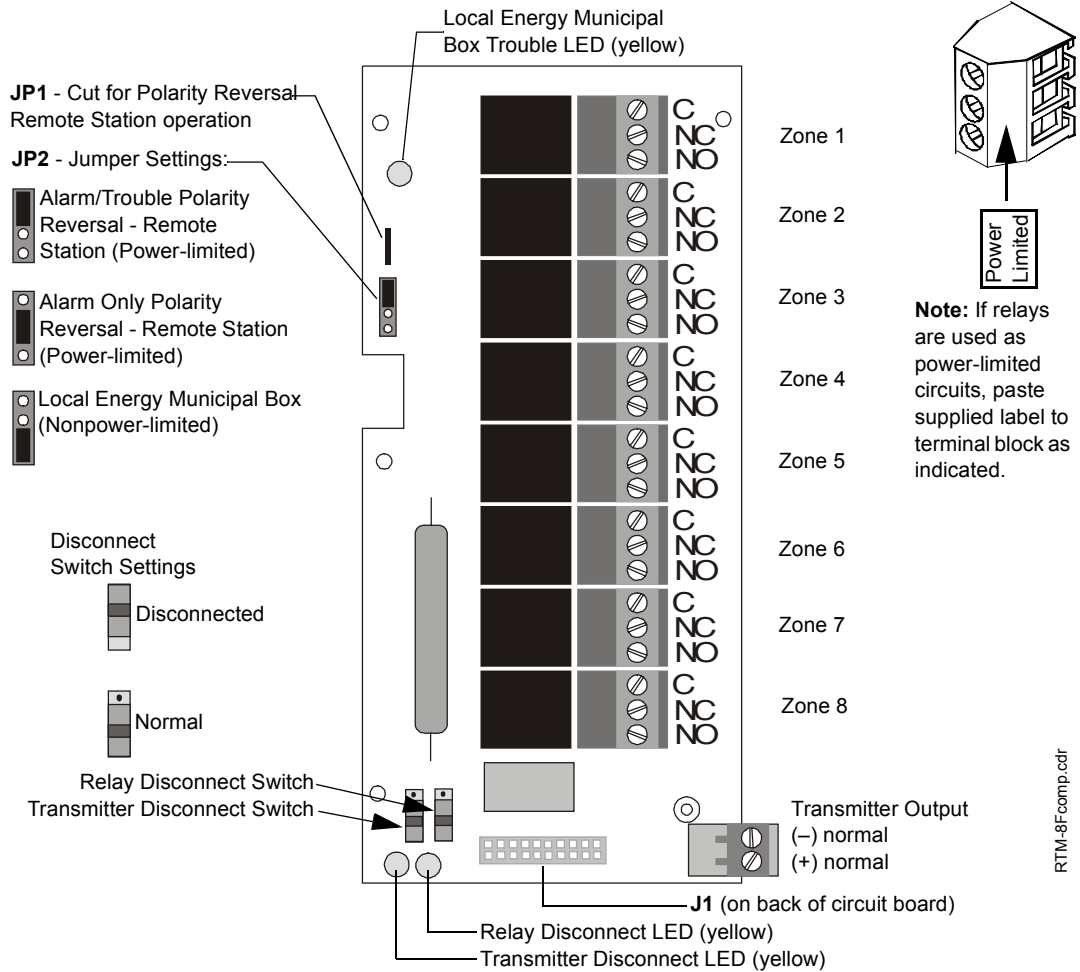

Figure 15 RTM-8F Components
7	If required, affix the terminal identification labels (see Figure 15 on page 36).
4. To prevent the yellow Trouble LED from turning on when the Transmitter Output is not used (no connections), move jumper JP2 to the Local Energy Municipal Box position (bottom two pins) and install a dummy load across the Transmitter Output terminals as shown below. The dummy load is a 1N4004 diode. The cathode must be connected to the terminal labeled '(-) normal' in Figure 15, and the anode must be connected to the terminal labeled '(+) normal'. Polarity must be observed or the Trouble LED will remain on.